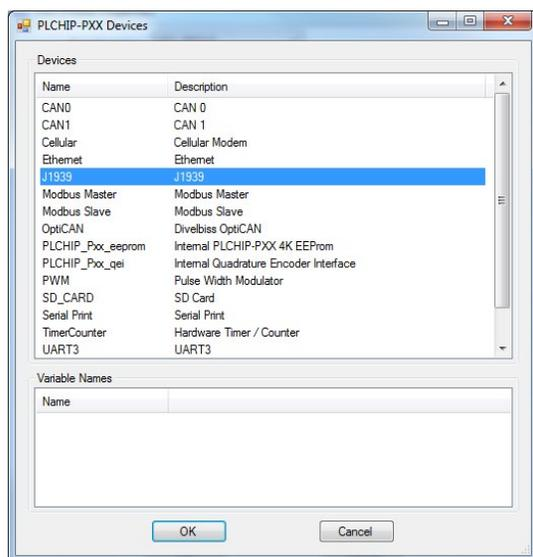

Figure 2-51 - PLCHIP-PXX Devices - J1939
4. Click / select **J1939** (highlight). Refer to Figure 2-51.